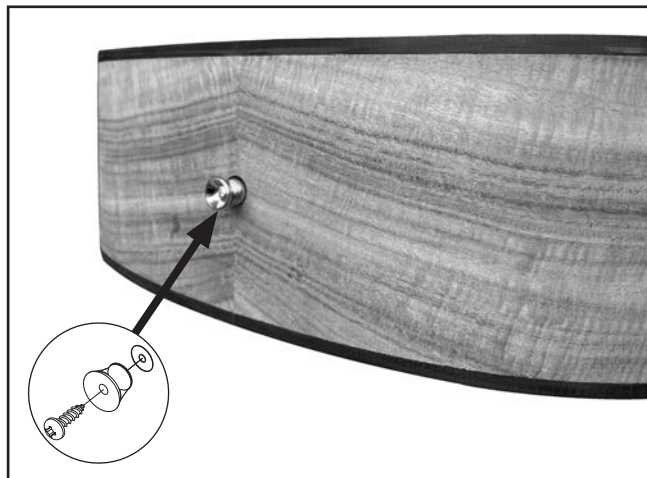

Figure 26. Strap button installed.
3. Install strap button with M3 x 20 tap screw and felt pad, as shown in **Figure 26**.